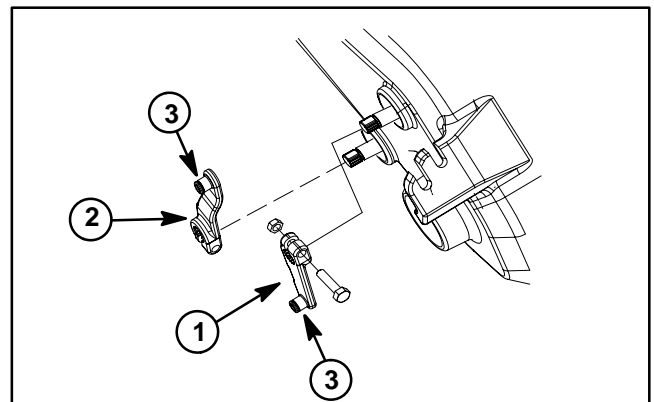

Figure 30
14. Place traction drive lever onto gearbox shaft noting location of alignment splines on shaft and lever. Mount traction lever with cable boss outward (Fig. 30). Secure lever with cap screw and lock nut. Parking brake lever installation should be done with cable attached to lever as gearbox is being installed on machine.